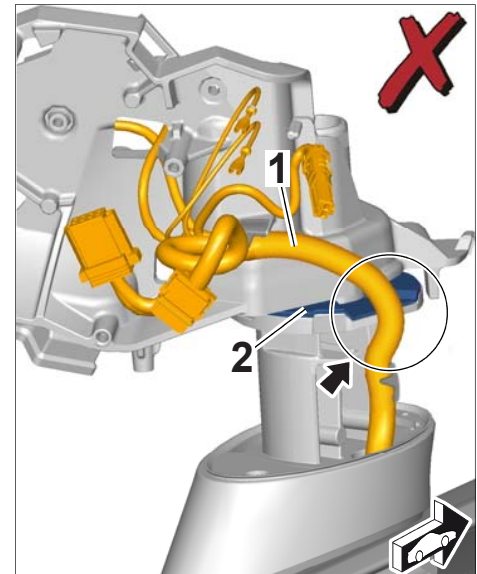

Figure 2
**Figure 2** shows the **incorrect** routing of the wire harness.
2.2 **If** the wire harness for exterior mirrors ⇒ *Figure 2 -item 1-* as shown in ⇒ *Figure 2* is **over** the locking disc ⇒ *Figure 2 -item 2-* on the mirror base ⇒ *Figure 2 -arrow-*⇒ the wire harness is **not routed correctly**. ⇒ **Continue** with **Step 2.2.1** and **check** the wire harness for signs of chafing.